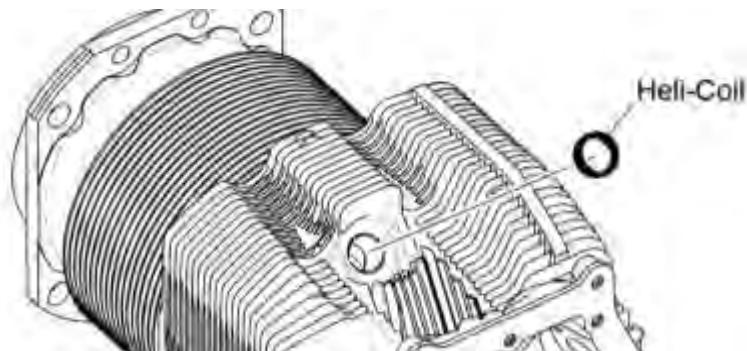

Figure 48
- A. Replace the spark plug Heli-Coil® insert (Figure 48) in the cylinder head if the threads in the spark plug hole in the cylinder are damaged (usually occurs when hard carbon on the end of the spark plug causes the insert to unwind during spark plug removal).